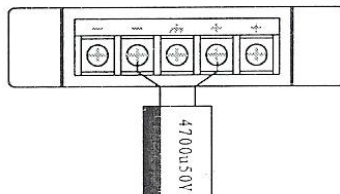

Fig 8
3. When the unit is used in inductance load (like DC electric buzzer), install a 4,700uF ~ 2,200uF/50V electrode capacitor across the extension terminal, connection please refer to Fig 8